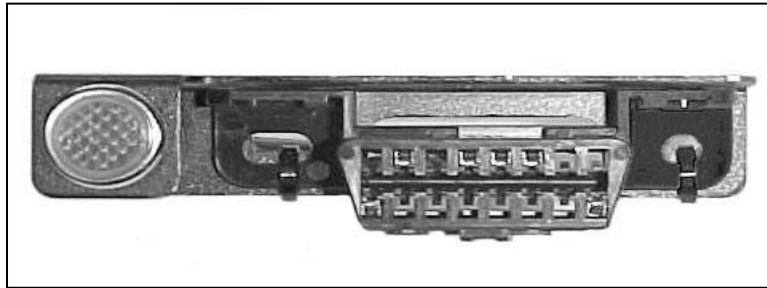

FIGURE 6.1 DLC Connector & Check Engine Light
The wires in this group consist of the diagnostic link connector (DLC) (**SEE FIGURE 6.1**), the check engine light (pre-mounted into a mounting bracket), fuel pump relay, emissions devices (optional) and 6 other wires.
- 6.2.4 DLC** - The Data Link Connector (**DLC**) **Figure 6.1** is used to communicate with the PCM. The Powertrain on Board Diagnostic (**OBD**) System Check is an organized approach to identifying a problem created by an electronic powertrain control system malfunction. The Powertrain OBD System Check is the starting point for any drivability concern diagnosis. The Powertrain OBD System Check directs the installer to the next logical step in diagnosing a drivability concern. Understanding and using the Powertrain OBD System Check correctly will reduce the diagnostic time and prevent the replacement of good parts. Mount the DLC connector using the bracket that the light is mounted in allowing access to the front of the connector allowing you to see the light while driving. **See Figure 6.1**